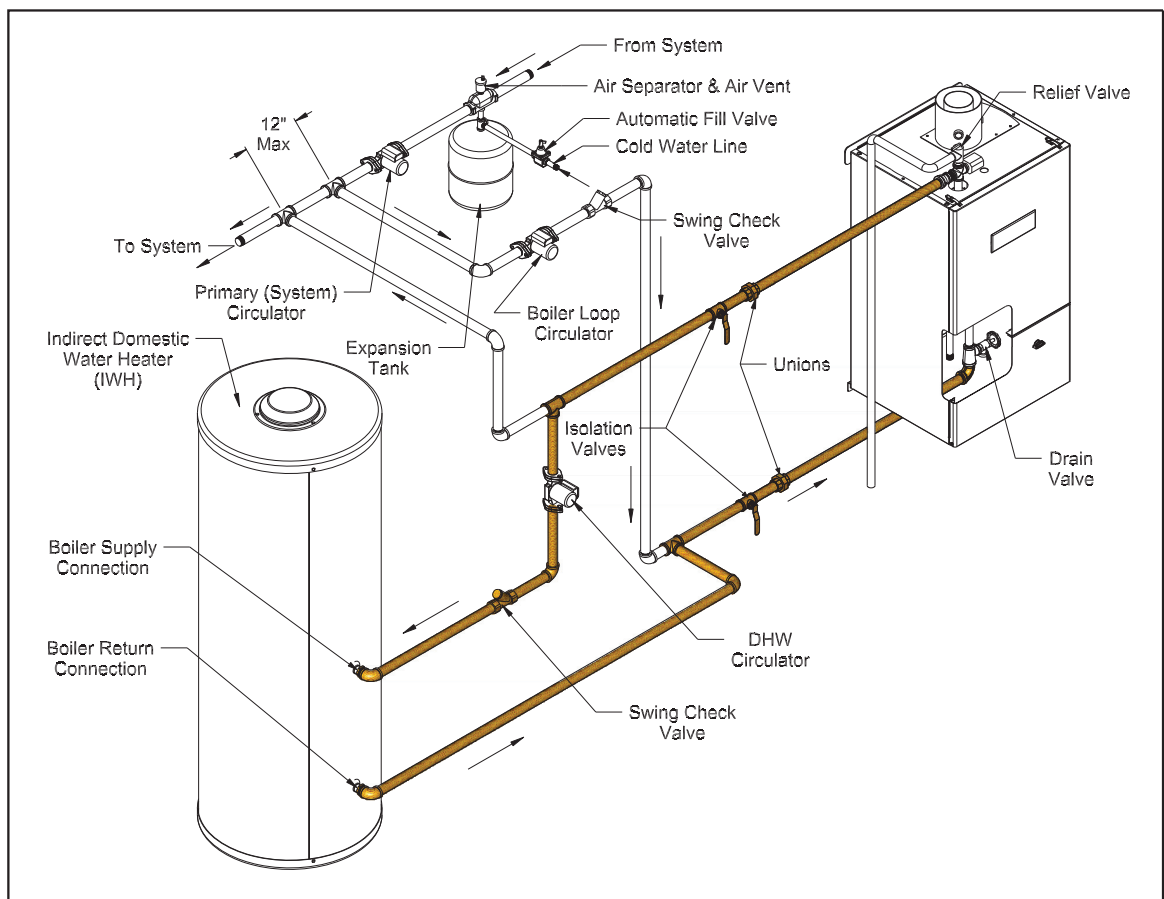

Figure 9.4b: Piping Method #1 - Indirect Water Heater Loop Piping (Shaded)
- a) Count all fittings in the planned Indirect Water Heater Loop (the indirect water heater loop consists of the shaded piping in Figure 9.4b). In doing so, you will be counting some piping and fittings which are common to the heating system secondary ("boiler loop") piping and which were counted in Step 2a above. Do not count the elbows or fittings supplied with the boiler.